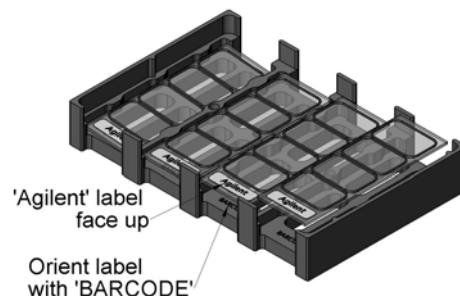

FIGURE 2
2. Place a gasket slide into each chamber in the cassette with the “Agilent” label facing up and aligned with the “barcode” side of the chamber, as shown in Figure 2.